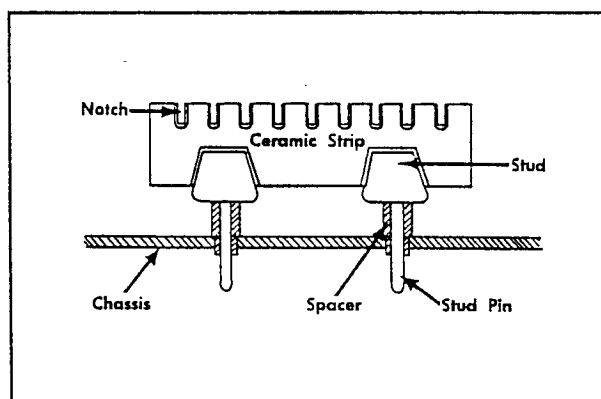

Fig. 4-1. Ceramic terminal strip assembly.
**Ceramic Terminal Strip Replacement.** A complete ceramic terminal strip assembly is shown in Fig. 4-1. Replacement strips (including studs) and spacers are supplied under separate part numbers. The old spacers may be reused if they are not damaged.